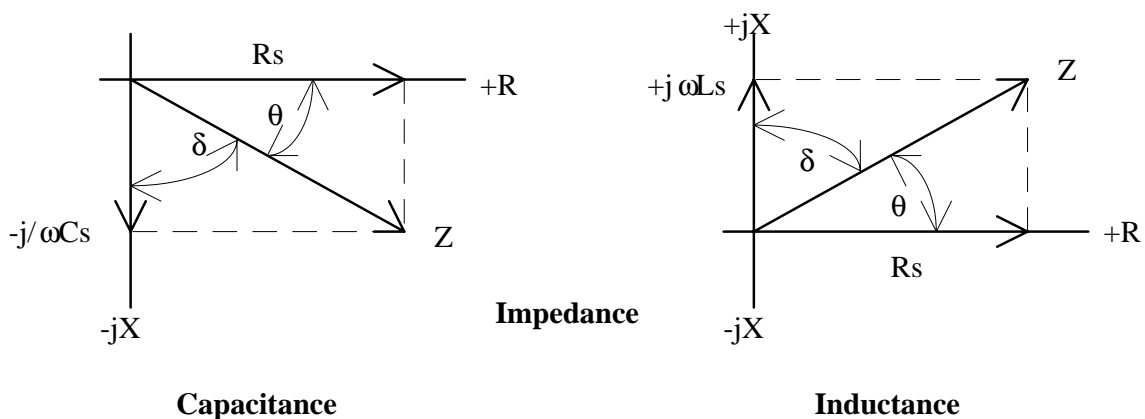
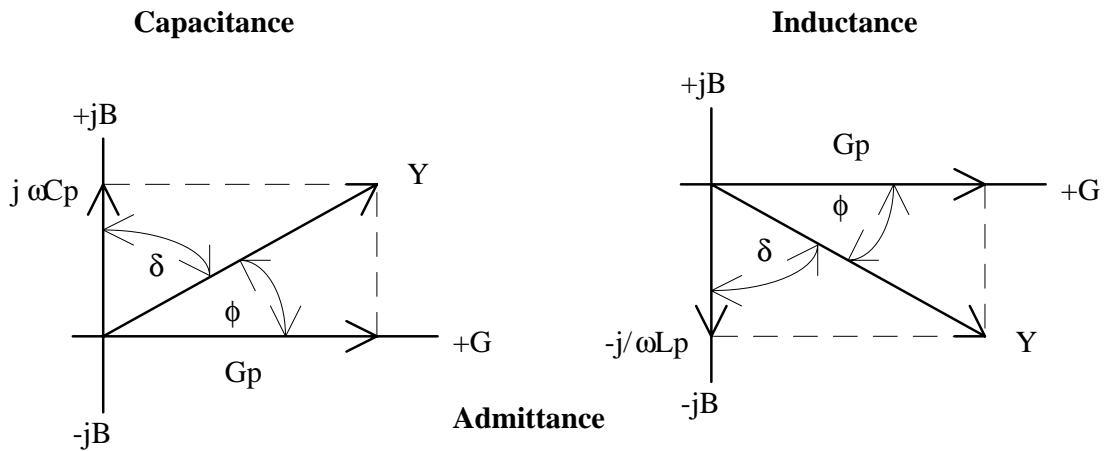

Figure 2-7
Figure 2-8
Impedance is the parameter used to characterize electronic components, materials and circuits. Impedance $|Z|$ is defined as the opposition a device or circuit offers to the flow of ac current at a particular frequency and generally represented as a complex quantity consisting of a real part (resistance, R) and imaginary part (reactance, jX). Impedance can be expressed using the rectangular coordinate form ($R + jX$) or polar form as magnitude and phase angle ($|Z| \angle \theta$). Figure 2-7 shows the mathematical relationship between R , X , $|Z|$, and θ for both inductive and capacitive devices. In some cases it becomes mathematically practical to represent impedance using the reciprocal where $1/|Z| = |Y| = G + jB$, where $|Y|$ represents admittance, G conductance, and B susceptance. This mathematical relationship is shown in Figure 2-8 for inductive and capacitive devices.
Quality factor (Q) is used as a measure of a reactance's purity (how close it is to being a pure reactance, i.e. no resistance) and defined as the ratio of the energy stored in a device to the energy dissipated by the device. Q is dimensionless and is expressed as $Q = X/R = B/G$. From Figure 2-8 one can see that Q is the tangent of the angle θ . Q is commonly applied to inductors and for capacitors the term generally used to express purity is Dissipation Factor (D), which is the reciprocal of Q .